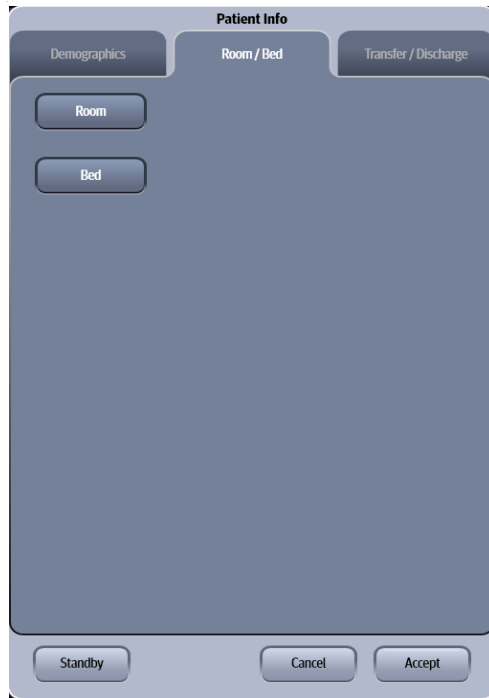

FIGURE 6-2 Example Patient Info Dialog (Room/Bed Tab)
2. Select the **Room/Bed** tab (as shown in FIGURE 6-2).